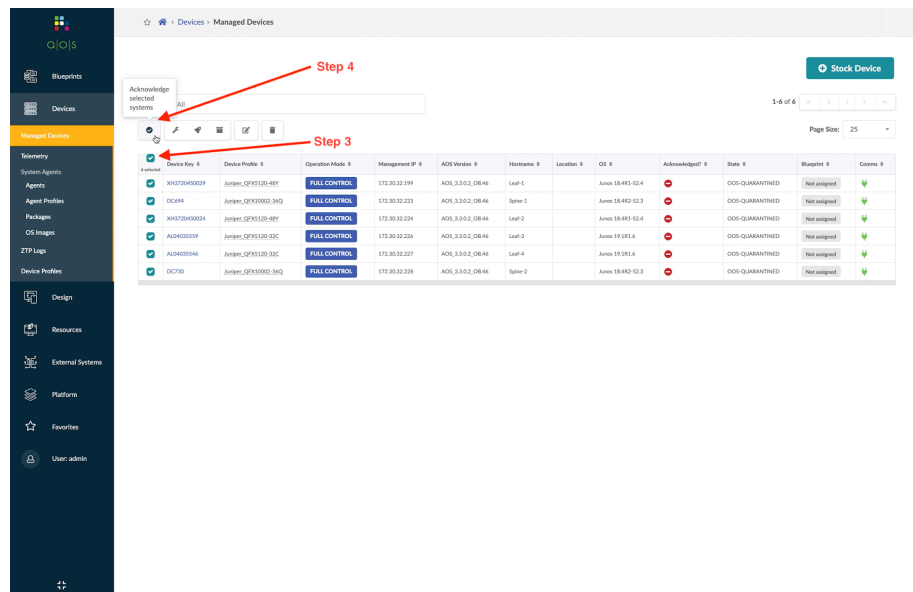

Figure 3.22 Acknowledging Devices in Apstra
Step 4: Click the Acknowledge toggle. See Figure 3.22.